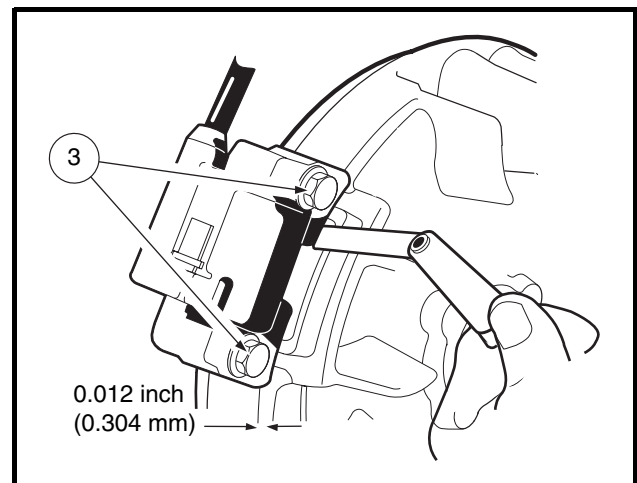

Figure 13-8 Adjust Ignition Coil Air Gap
2. Tighten the two bolts (3) and use a bronze feeler gauge to adjust the ignition coil air gap to 0.012 inch (0.304 mm) (**Figure 13-8, Page 13-8**).